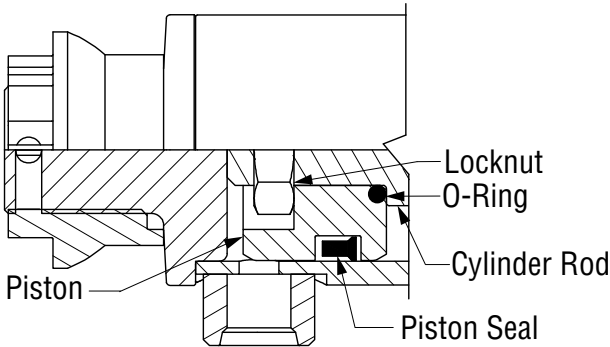

Figure 6-9, Piston Seal
2. Note the direction of the seal lips on the piston. Improper installation will result in poor performance. The cupped side or O-Ring side of the seal should be facing the gland cap. (Figure 6-9)